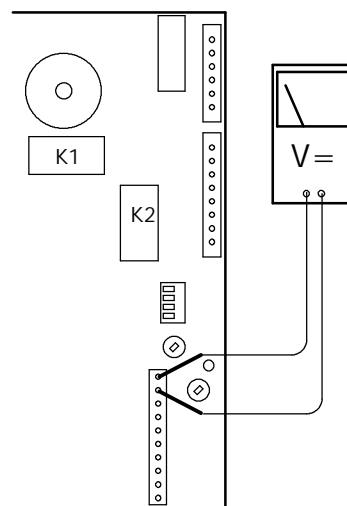

fig. 23
- 2 Connect a meter, set for direct voltage measurement, to the points indicated in fig. 23.